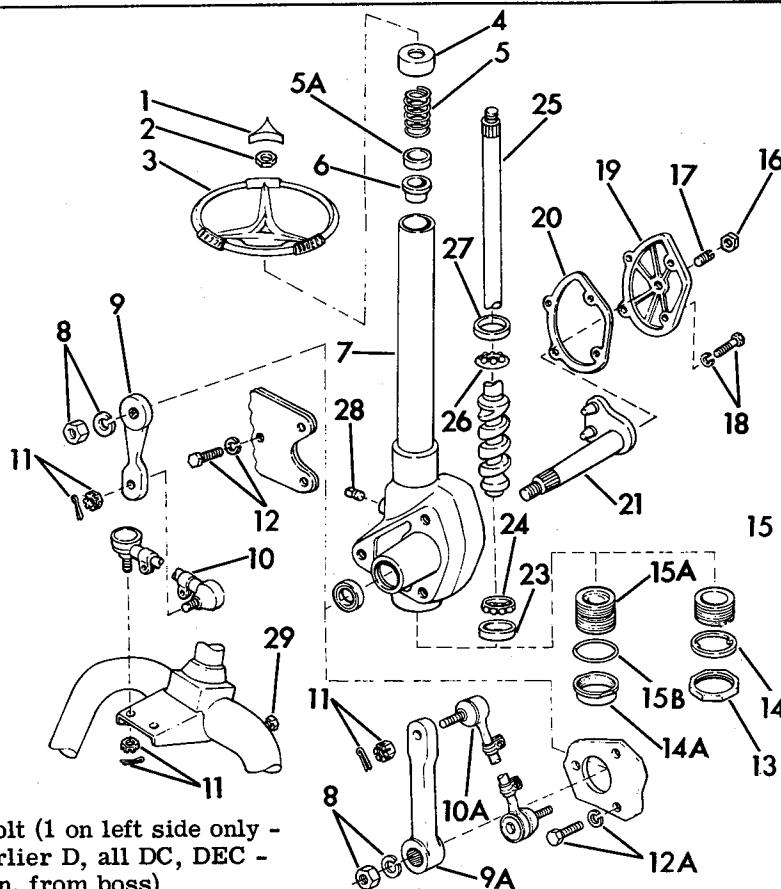

Figure 2-38. Wheel Steering - Exploded View
1. Worm Bearing Preload Adjustment (Figure 2-38).
REMOVING STEERING WHEEL AND STEERING GEAR UNIT (Figure 2-38)
On 1972 and later DE-4, the front fiberglass body section must be removed. See "Body" Section, 2. After removing steering shaft nut and lockwasher (8, Figure 2-38) use claw puller part No. 97292-61 to remove steering arm (9A, Figure 2-38). Steering gear is secured to frame with three bolts and lockwashers (12A, Figure 2-38).
DISASSEMBLING AND ASSEMBLING STEERING ARM AND TIE ROD ASSEMBLY (Figure 2-38)
DISASSEMBLING AND ASSEMBLING STEERING GEAR UNIT (Figure 2-38)